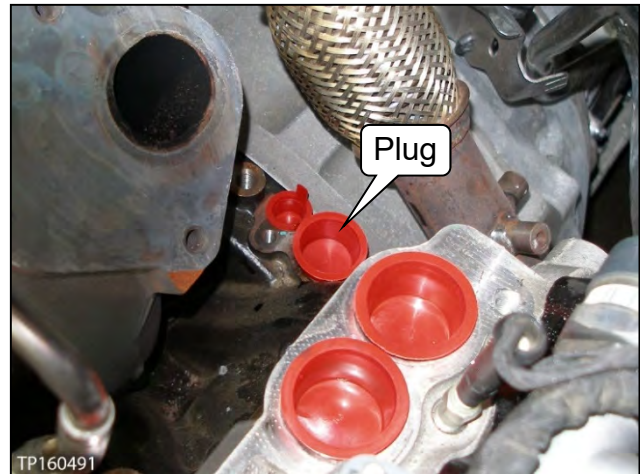
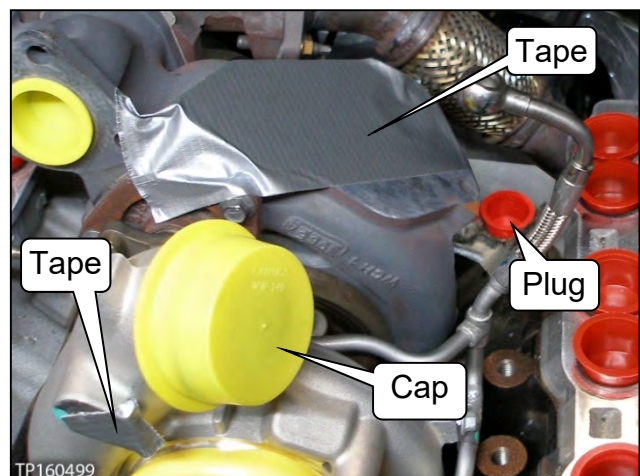

Figure 55
Figure 56
- See Figure 55 and Figure 56 for all locations.